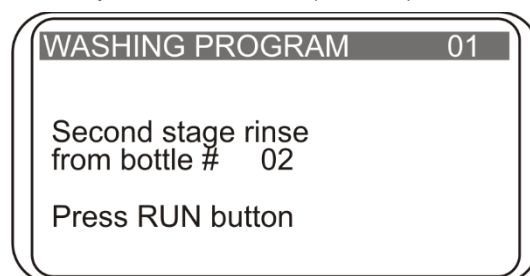

Fig. 9. Choosing the bottle number for rinse on the second channel
- 4.14 If operation requires washing from two channels (parameter “On two channels” set to YES), confirmation of the correct bottle number for second wash appears on the display before starting the program (fig. 9). Select necessary bottle number using + and - keys and press the **Run/Stop** key.